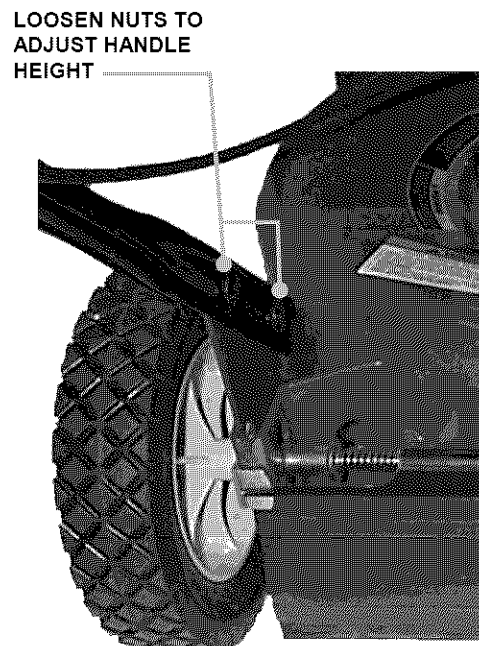

FIGURE 2.5
1. Loosen the two nuts on the inside of each of the lower handles as shown in Figure 2.5.